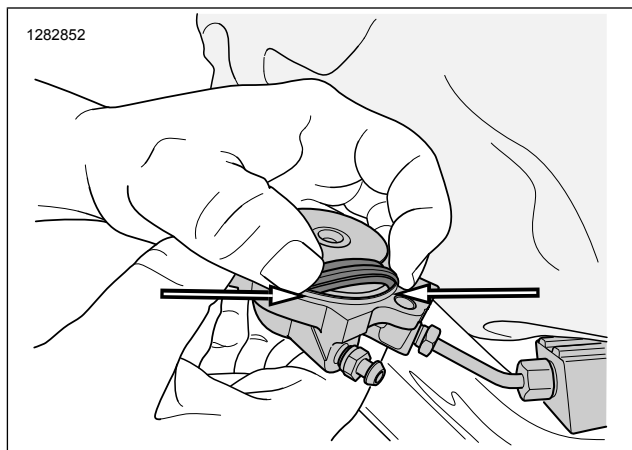

Figure 4. Pinching Actuator Transmission Seal Boot
- a. Refer to Figure 4. Pinch the actuator transmission seal boot (4).